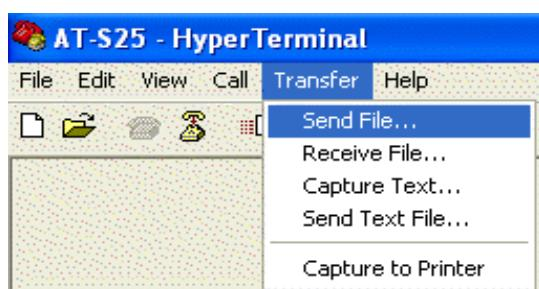

Figure 5 Local Management Window - Send File Menu
- From the HyperTerminal main window, select the Send icon  or select the Transfer menu, and then select *Send File...* from the pull-down menu, as shown in Figure 5.